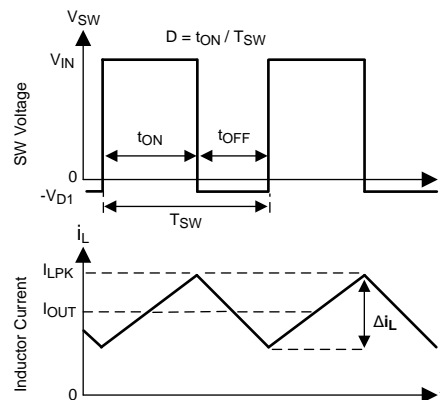

Figure 33. SW Node and Inductor Current Waveforms in Continuous Conduction Mode (CCM)
The following operating description of the LM43601 will refer to the Functional Block Diagram and to the waveforms in Figure 33. The LM43601 is a step-down Buck regulator with both high-side (HS) switch and low-side (LS) switch (synchronous rectifier) integrated. The LM43601 supplies a regulated output voltage by turning on the HS and LS NMOS switches with controlled ON time. During the HS switch ON time, the SW pin voltage V_{SW} swings up to approximately V_{IN} , and the inductor current I_L increases with a linear slope $(V_{IN} - V_{OUT}) / L$. When the HS switch is turned off by the control logic, the LS switch is turned on after a anti-shoot-through dead time. Inductor current discharges through the LS switch with a slope of $-V_{OUT} / L$. The control parameter of Buck converters are defined as Duty Cycle $D = t_{ON} / T_{SW}$, where t_{ON} is the HS switch ON time and T_{SW} is the switching period. The regulator control loop maintains a constant output voltage by adjusting the duty cycle D . In an ideal Buck converter, where losses are ignored, D is proportional to the output voltage and inversely proportional to the input voltage: $D = V_{OUT} / V_{IN}$.